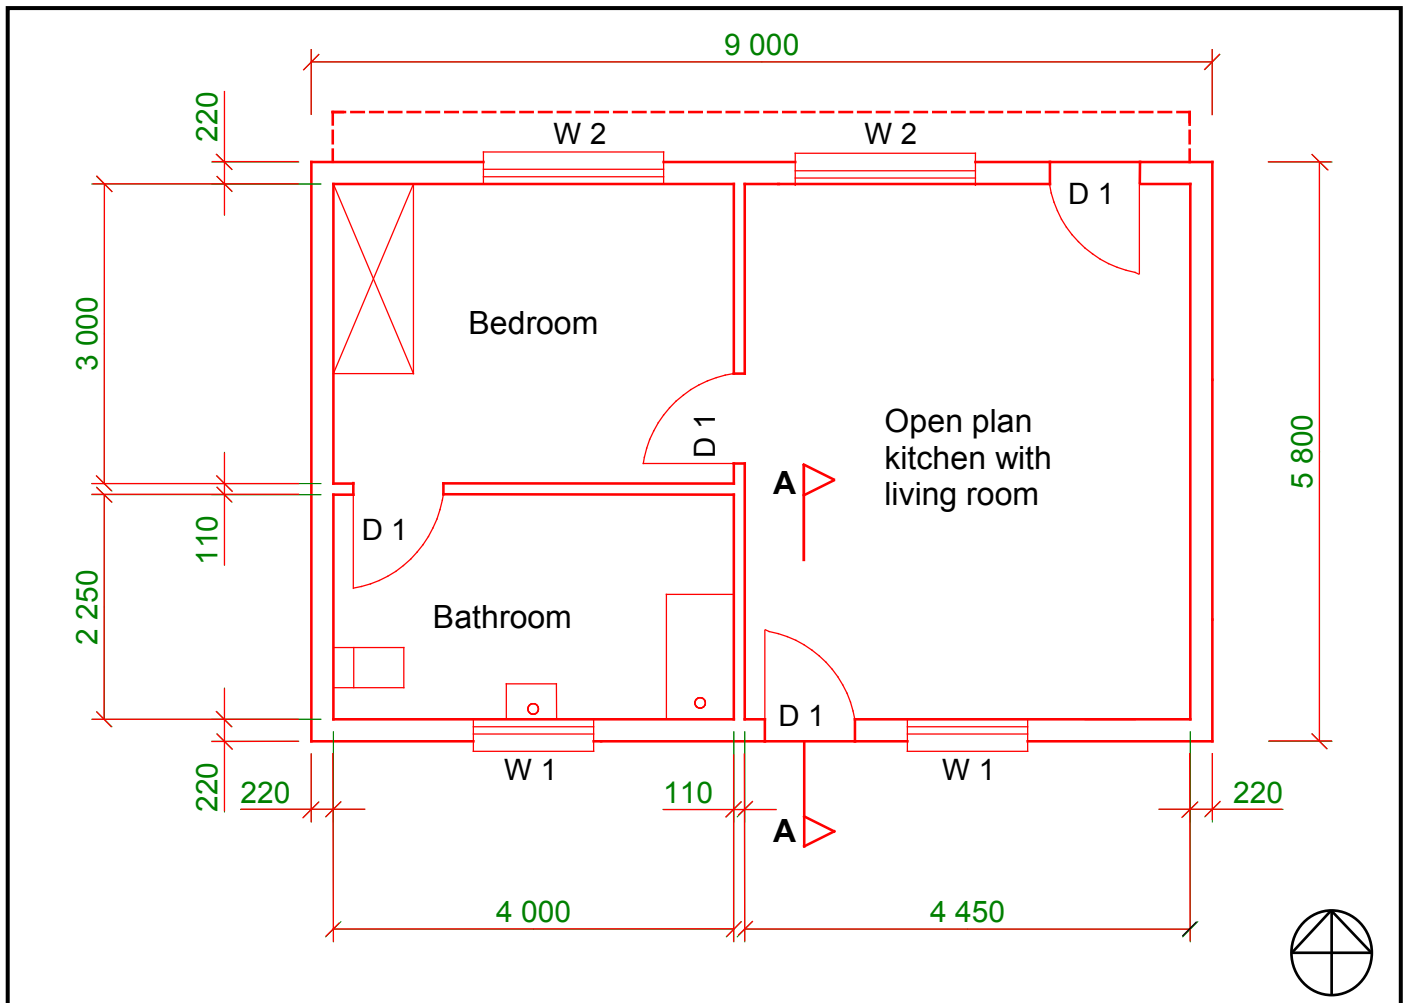

FIGURE 6.2
6.2 FIGURE 6.2 below shows the floor plan of a one-bedroom flat.